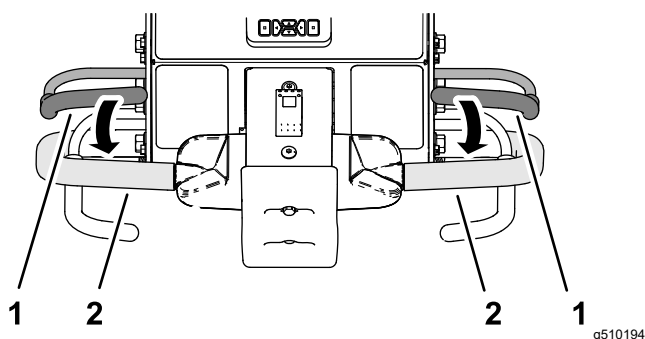

Figure 93
3. Grasp the left or right handlebar and the operator-presence bail (Figure 93), and squeeze the bail to the handle.